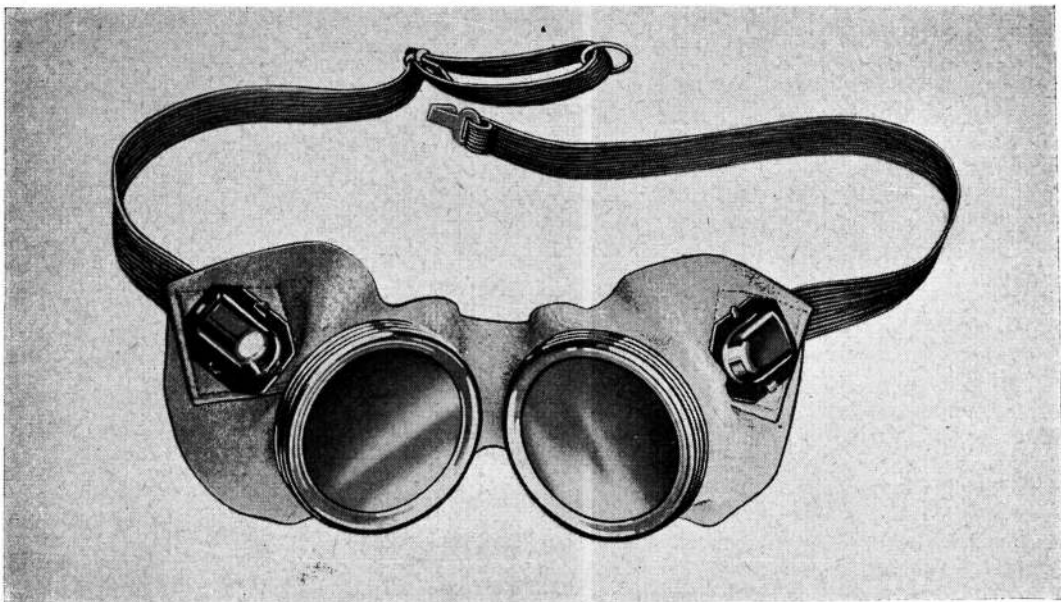

Fig. 6. Dark adaptation goggles, Mk. 1A
21. Dark adaptation goggles, Mk. 1A (Stores Ref. 22C/875) (*fig. 6*) enable the crews of night-flying aircraft to become "dark-adapted" before take-off. The filters consist of red-tinted cellulose acetate